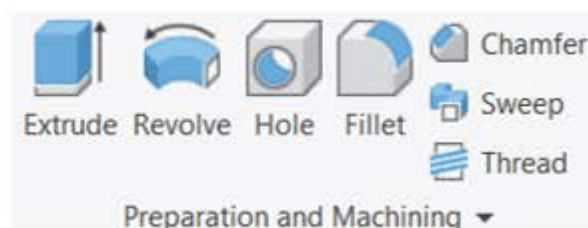

Figure 17–47
1. To access the options in the panel shown in Figure 17–47, which of the feature groups must be enabled? (Select all that apply.)